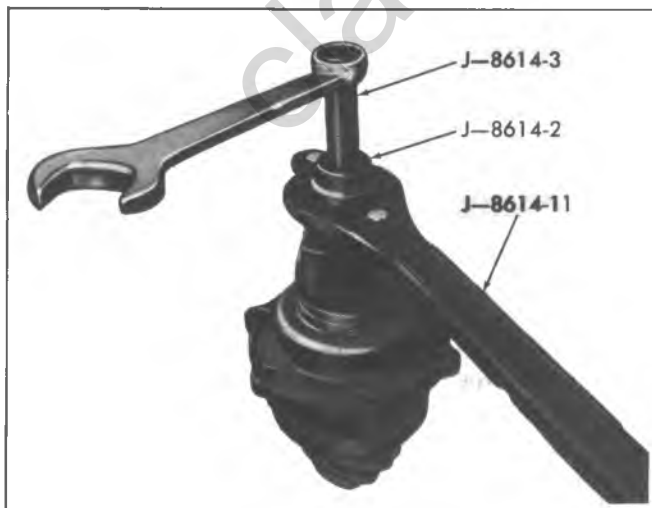

Fig. 9E—Removing Flange
4. Thread end of J-8614-3 into small O.D. end of J-8614-2. Then with J-8614-11 installed as a step 2, insert J-8614-2 into J-8614-11 and turn it 1/8 of a turn to locked position. Remove flange by turning J-8614-3 while holding J-8614-11 as shown in figure 9E.